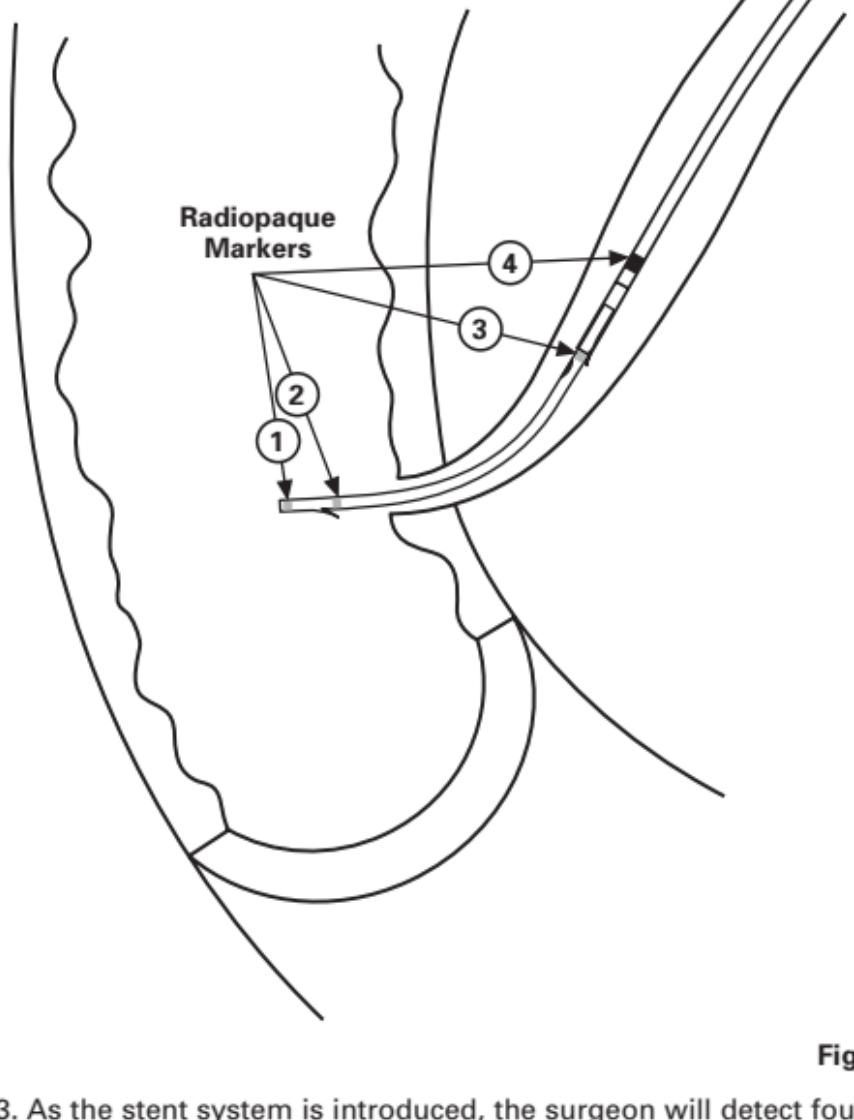

Fig. 3
13. As the stent system is introduced, the surgeon will detect four radiographic markers during fluoroscopic visualization, and the side access port can be used for contrast injection at any time additional visual enhancement is necessary. (**Fig. 3**)
14. The first radiographic marker (1) appears at the distal tip of the inner guide, matching the position of the distal tip of the stent itself.
15. The second marker (2) appears on the inner guide at a position matching the distal flange of the stent, and indicates the proper position of the stent across the ampulla. When this marker is seen in the duodenum, the surgeon is assured that the stent will be deployed across the ampulla, with the distal flange within the duodenum and the proximal flange within the common bile duct.
16. The third marker (3) denotes the position of the proximal flange, to demonstrate the position of both flanges to the surgeon before deployment. This marker should be kept above the ampulla to avoid deployment of the stent in a position that is too low in the bile duct.
17. The fourth marker (4) is the largest, and represents the distal tip of the stent backstop (c), against which deployment occurs.